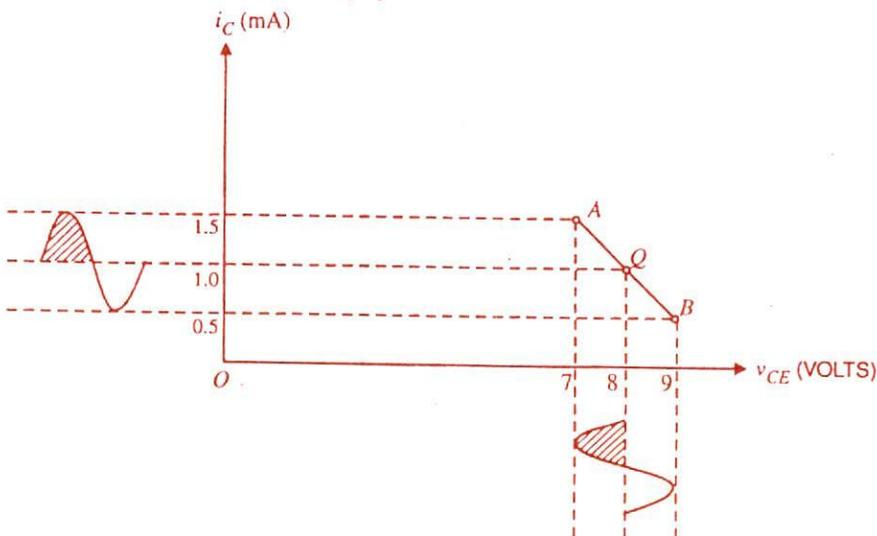

Fig. 12.17
**Solution.** Fig. 12.17 shows the whole process. When no signal is applied,  $v_{CE} = 8\text{ V}$  and  $i_C = 1\text{ mA}$ . This is represented by the operating point  $Q$  on the a.c. load line. During the positive half-cycle of a.c. signal,  $i_C$  swings from  $1\text{ mA}$  to  $1.5\text{ mA}$  and  $v_{CE}$  swings from  $8\text{ V}$  to  $7\text{ V}$ . This is represented by point  $A$  on the a.c. load line. During the negative half-cycle of the signal,  $i_C$  swings from  $1\text{ mA}$  to  $0.5\text{ mA}$  and  $v_{CE}$  swings from  $8\text{ V}$  to  $9\text{ V}$ . This is represented by the point  $B$  on the a.c. load line.